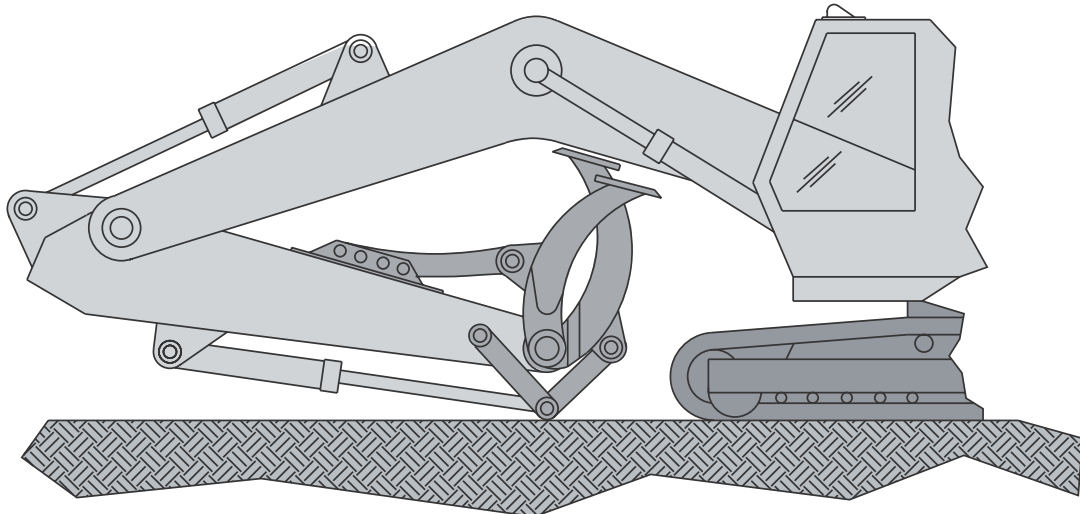

FIGURE 3-4
1. Position the carrier dipperstick so its back side is laying horizontal. Refer to figure 3-4.